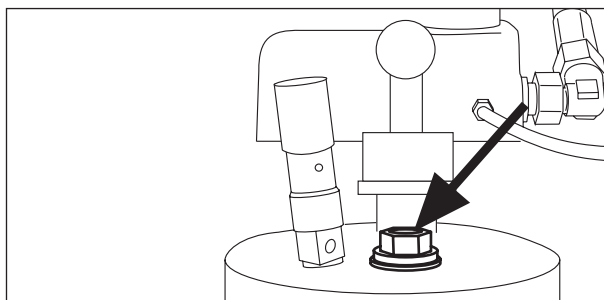

Fig. 20
- Open the oil drain (fig. 20) of the pressure reservoir and the oil cooler
- Close the oil drain (fig. 20) of the pressure reservoir and the oil cooler